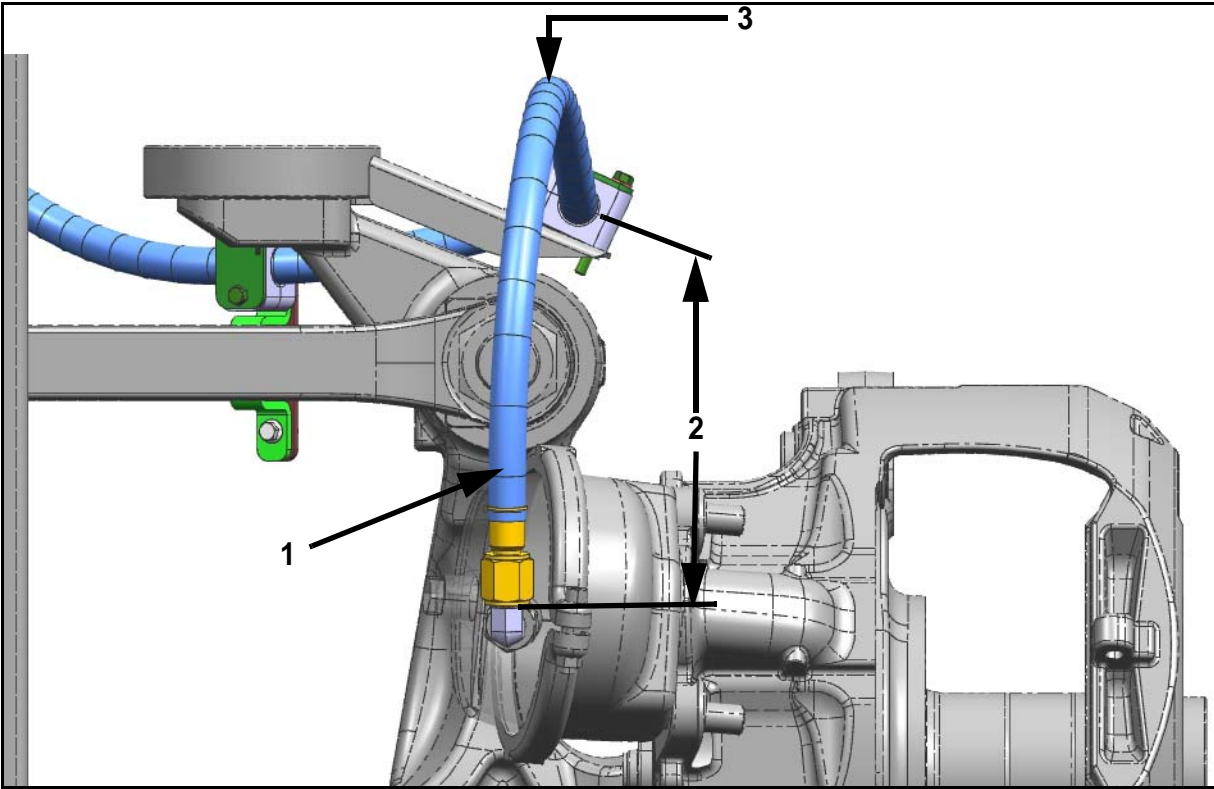

Figure 16.
40. Starting at the front brake chamber, route the front brake hose assembly to the first brake hose bracket (refer to Figure 16). Using the existing mounting hardware, mount (fingertight) the clamp assembly to the brake hose bracket.
42. Using a measuring tape, ensure that the front brake hose length is the 22.00 inches between the bottom of the swivel fitting to the inside face of the clamp as shown in Figure 16. Tighten clamp to secure in position.
Item	Figure 16 Description